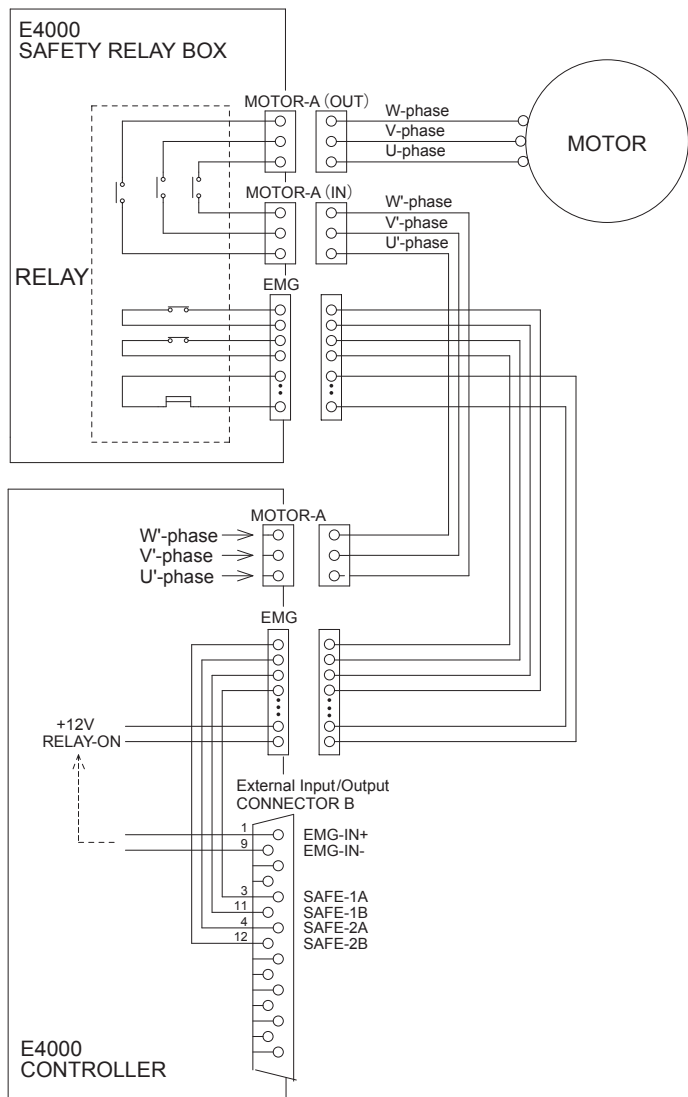

Fig. 9
Refer to P78 "16 - 2 - (1) Details of External Input / Output Connector B Signals " section of the CONTROLLER Operation Manual and Fig. 9.